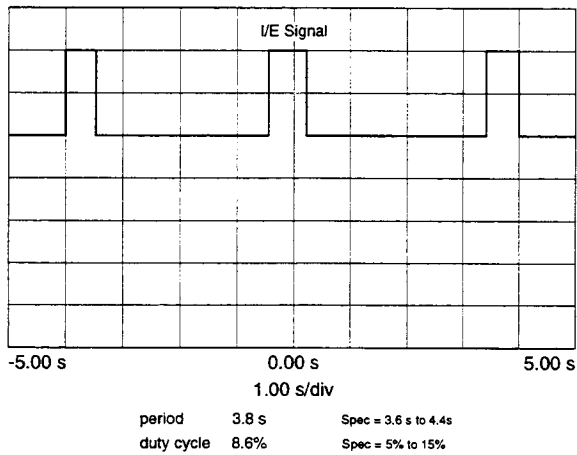

Figure 7-13. Timed Mode, BPM: 16, %IPAP: 10% (Min)
- Step 7 Set % IPAP to 10% (minimum setting) and verify and record that the I/E state has a duty cycle of approximately 10% ($\pm 5\%$). See Figure 7-13.